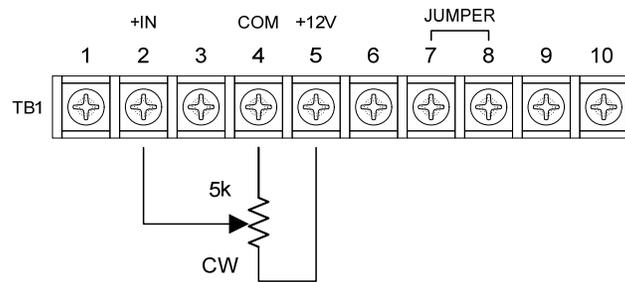

Figure 4.3 Remote Control with a Potentiometer
- a. With the power to the SHZF2/SHZF3 turned off, connect the potentiometer as shown in Figure 4.3. The CW position is the full power output position. Terminal TB1-5 is internally connected to a positive dc voltage source.